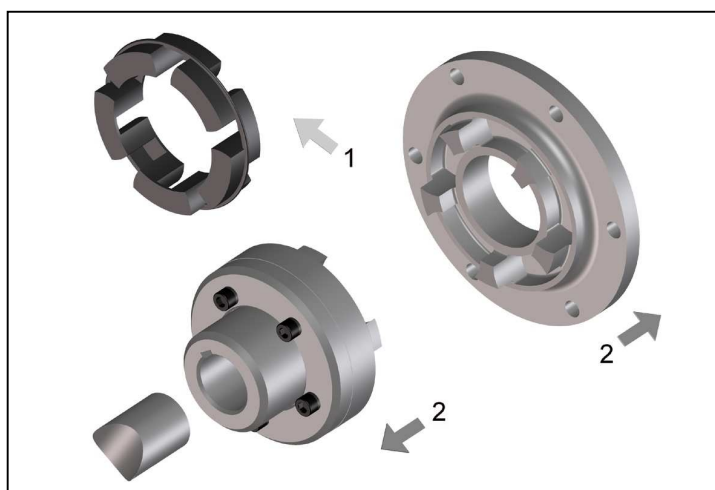

Fig. 4
- Remove the elastic buffer ring (Fig. 4, pos. 1).
- Mount the coupling hub in the proper position on the shaft end (Fig. 4, pos. 2).
- Mount the coupling flange to the flange connection. Take care that the parts do not become canted at the centering seat (Fig. 4, pos. 2).